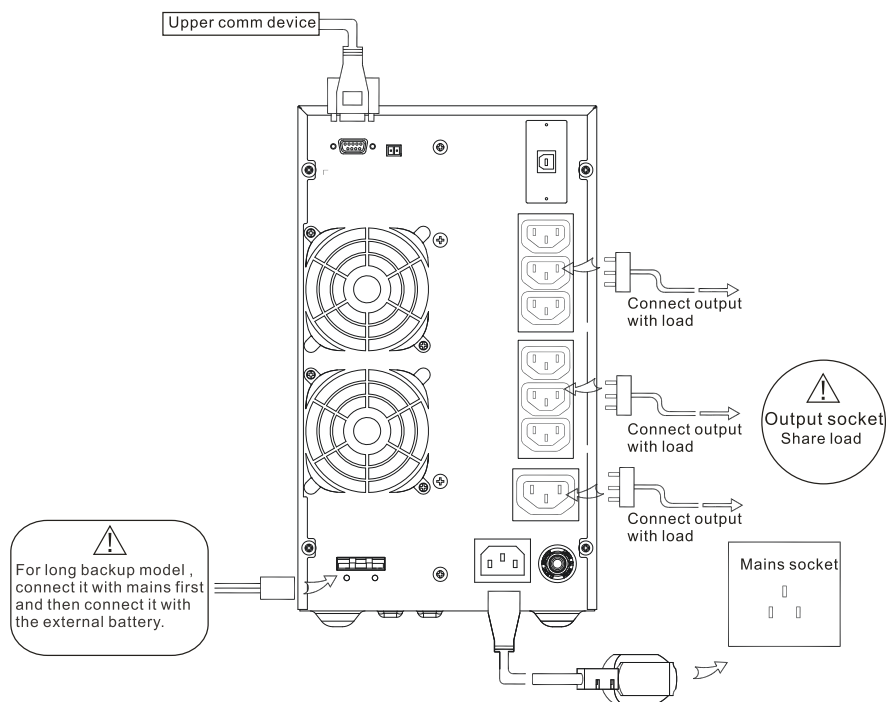

Figure3-5 Wiring diagram of 2kVA(L)/3kVA(L)
In the 2kVA (L)/3kVA (L) series, the input and output adopt sockets. When using it, please connect one end of the input power wire with input socket and then connect the other end of the input power wire with mains socket. Besides, connect the load power wire with the output socket. The wiring for the input and output of 2kVA(L)/3kVA(L) series UPS is as shown in Figure 3-5.